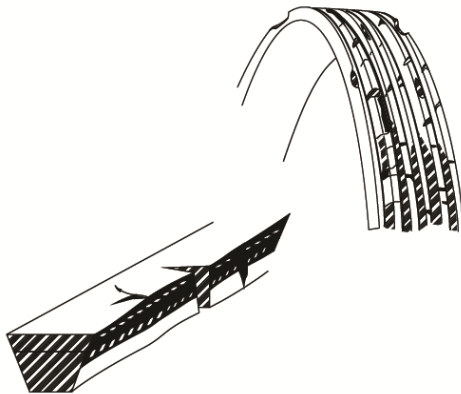

Figure 31 Drive Belt Damage
3. Inspect the drive belt. Look for signs of cracking, separation, cuts, or other damage. See Figure 31.